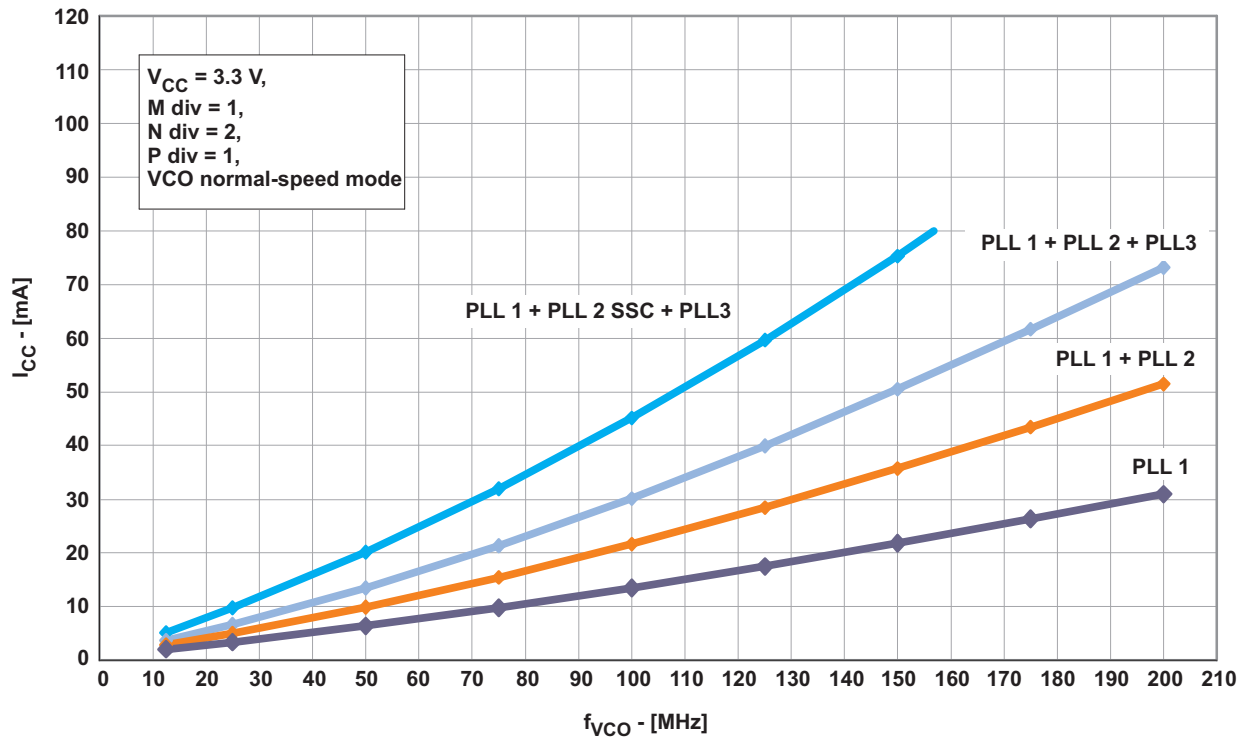
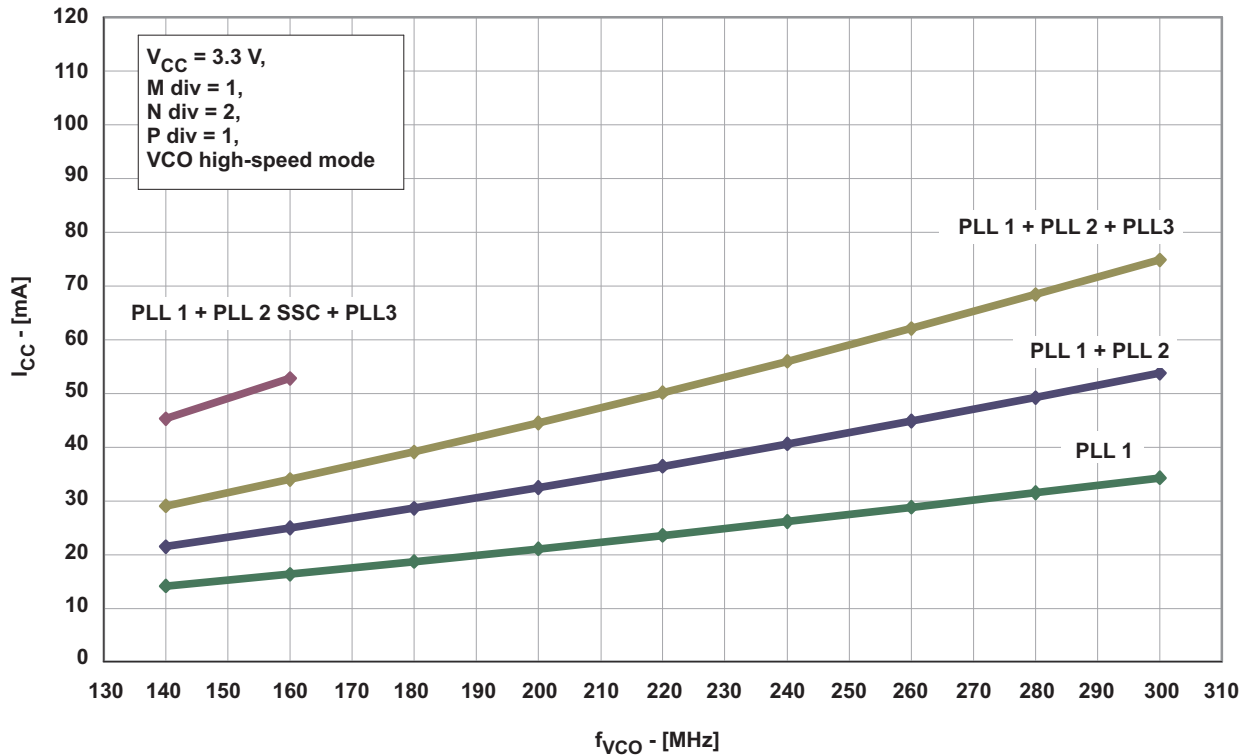
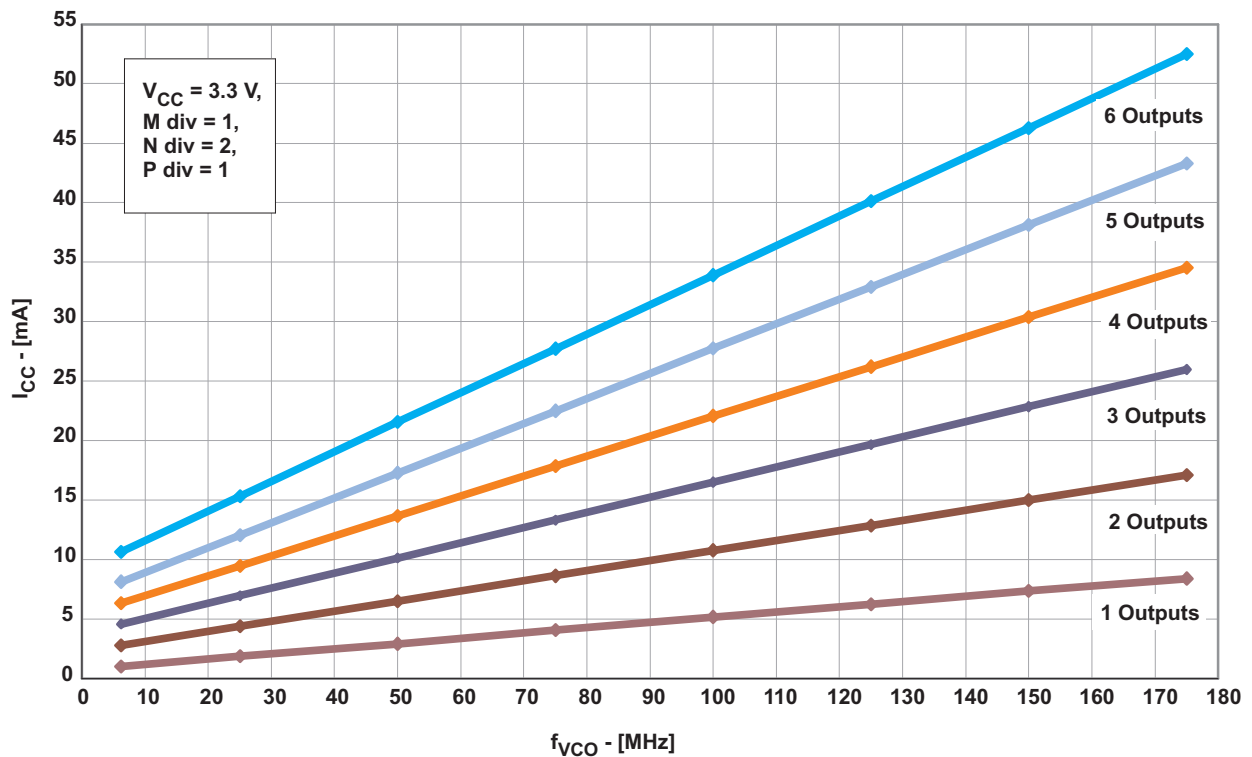
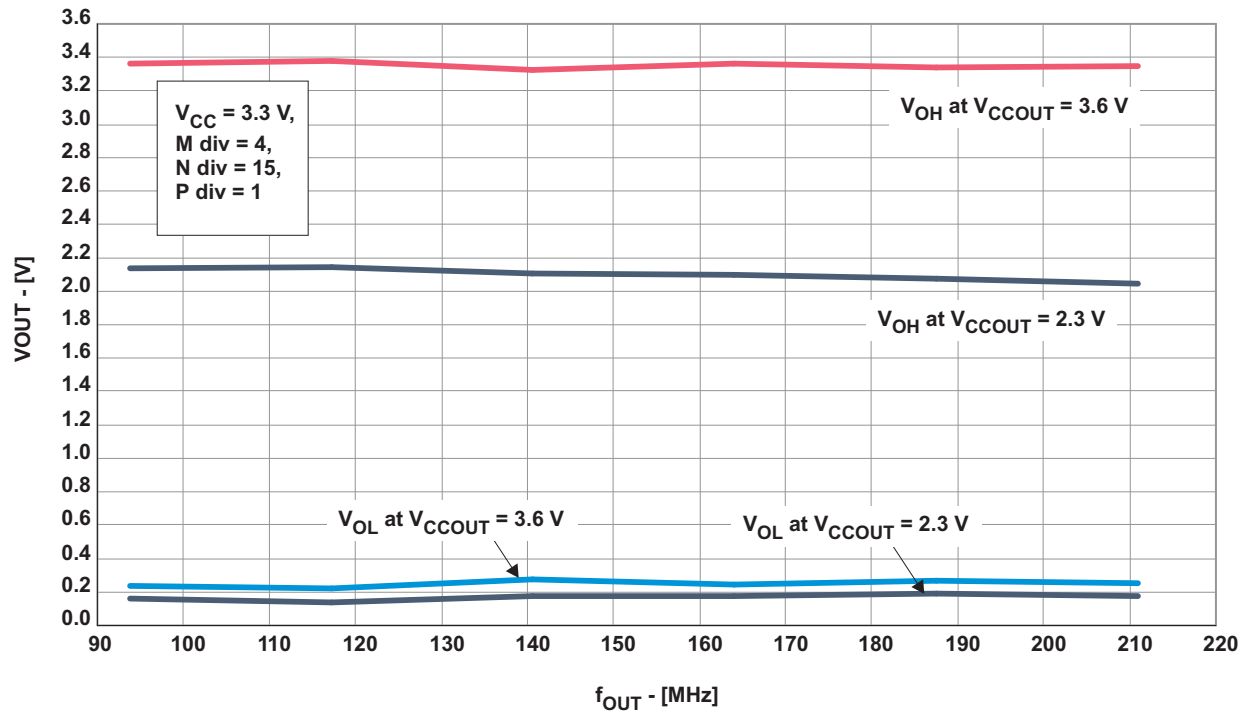

Figure 2.  $I_{CC}$  vs Number of PLLs and VCO Frequency (VCO at Normal-Speed Mode, Byte 6 Bit [7:5])
Figure 3.  $I_{CC}$  vs Number of PLLs and VCO Frequency (VCO at High-Speed Mode, Byte 6 Bit [7:5])
Figure 4.  $I_{CCOUT}$  vs Number of Outputs and VCO Frequency
Figure 5. Output Swing vs Output Frequency
- (1) All typical values are at respective nominal  $V_{CC}$ .
- (2) For calculating total supply current, add the current from Figure 2, Figure 3, and Figure 4. Using high-speed mode of the VCO reduces the current consumption significantly. See Figure 3
- (3) Normal-speed mode or high-speed mode must be selected by the VCO frequency selection bit in Byte 6, Bit [7:5]. The min  $f_{(VCO)}$  can be lower but impacts jitter-performance.
- (4) The maximum output frequency may be exceeded, but specifications under the Recommended Operating Condition may change and are no longer assured. Do not exceed the maximum power dissipation of the 20-pin TSSOP package (600 mW at no air flow). See Figure 5.
- (5) 50000 cycles.
- (6) Jitter depends on configuration. Jitter data is for normal  $t_r/t_f$ , input frequency = 27 MHz,  $f_{(VCO)} = 147$  MHz output.
- (7) The  $t_{sk(o)}$  specification is only valid for equal loading of all outputs.